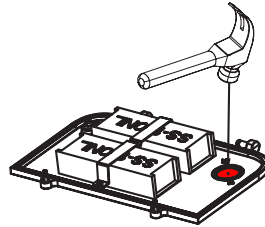

Figure 2
2. Put driver cover on ground. Hammer out knockout hole. (Fig. 2)